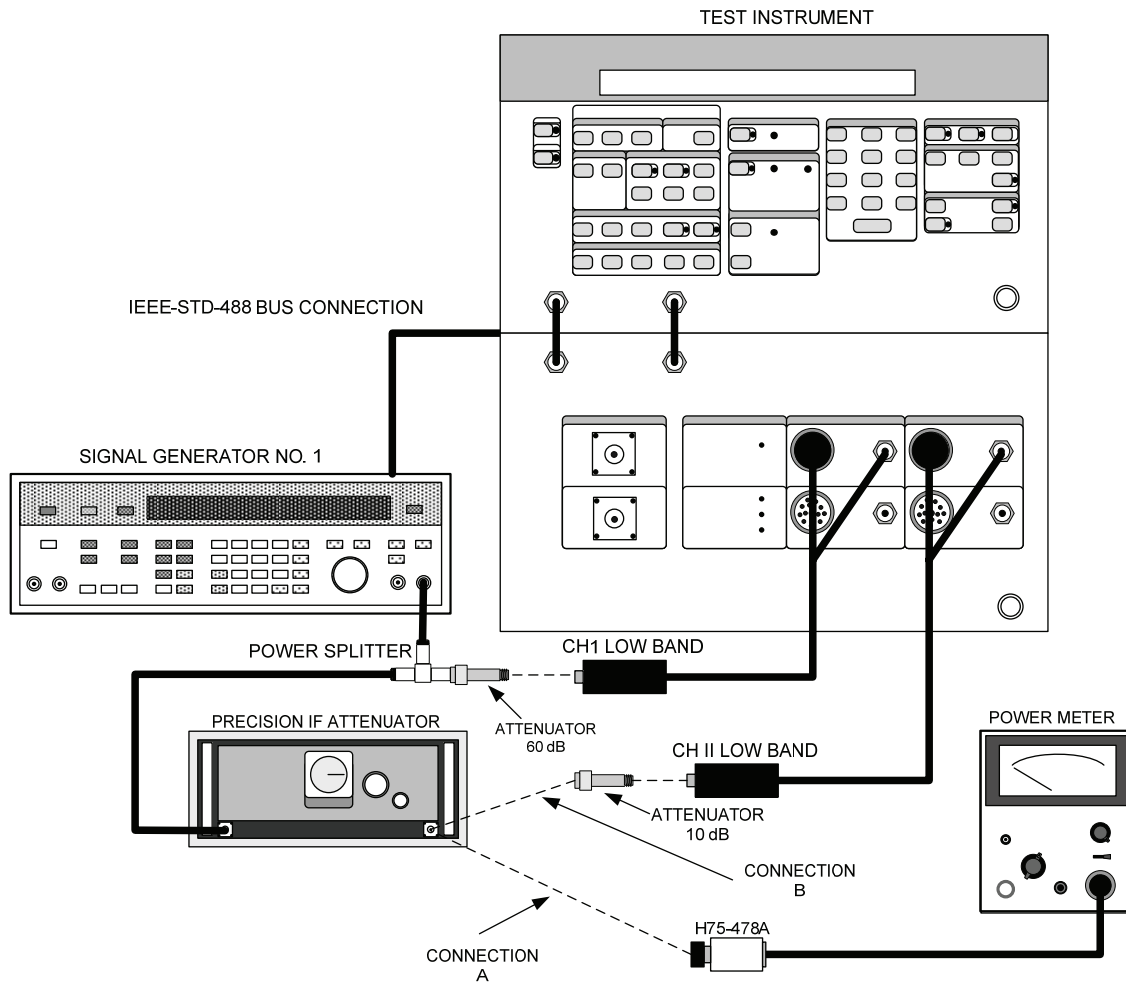

Figure 1. Attenuation accuracy (30 MHz) - equipment setup.
- (1) Connect equipment as shown in figure 1, connection A.
- (5) Set precision IF attenuator to 20.00 dB and adjust signal generator No. 1 for a power level of -20 dBm or less as indicated on power meter. Do not readjust power level for remainder of this test.
- (6) Connect equipment as shown in figure 1, connection B.
- (7) Press **TI MEASUREMENT ON** and **REF** pushbuttons to establish, a TI reference.
- (8) Adjust precision IF attenuator from 20 to 30 dB. Press **TI MEASUREMENT ON** pushbutton. TI display will indicate ± 0.02 dB/10dB of test report values for precision if attenuator. Press **MEASUREMENT STOP** pushbutton.
- (9) Repeat (8) above in 10 dB increments to 100 dB. TI display will indicate within the tolerances specified in (8) above.